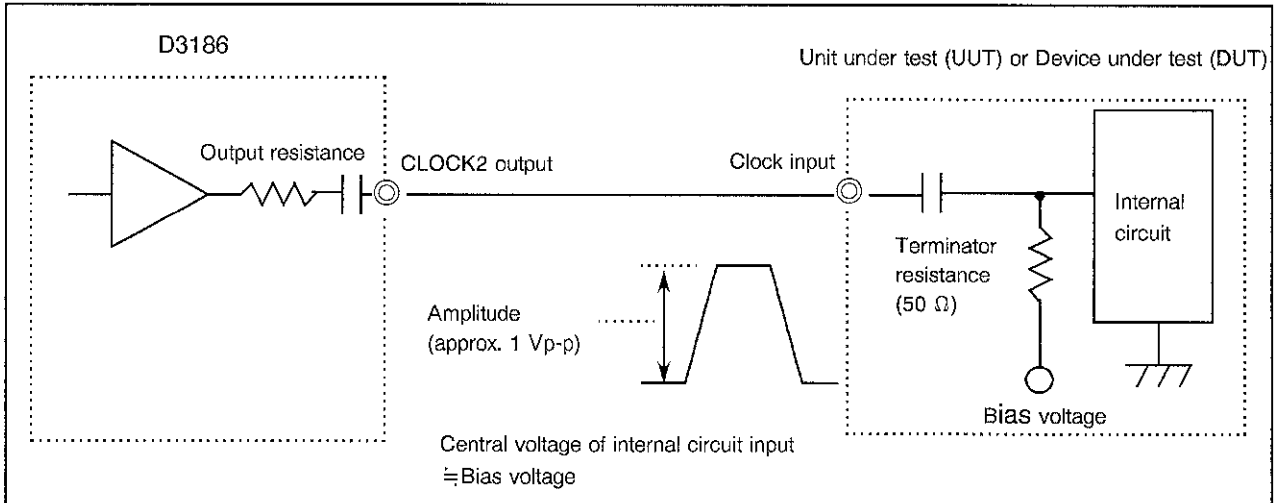

Figure 4-7 CLOCK2 Output, AC Connection Terminator
- (b) To use fixed UUT/DUT clock input amplitude (see Figure 4-7.):